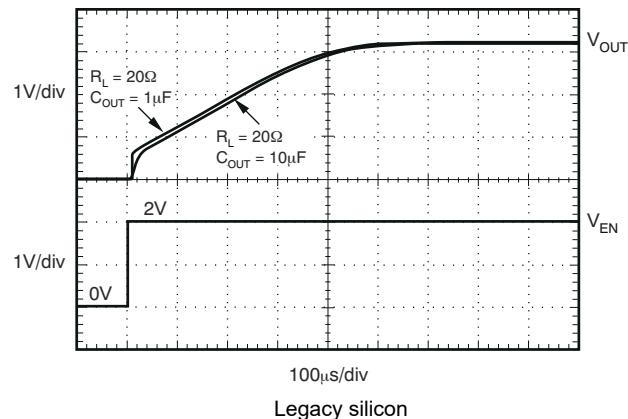

Figure 5-32. TPS73701 Turn-On Response
The enable pin (EN) is active high and compatible with standard TTL-CMOS levels. V_{EN} below 0.5 V (maximum) turns the regulator off and drops the GND pin current to approximately 10 nA. When EN is used to shutdown the regulator, all charge is removed from the pass transistor gate, and the output ramps back up to a regulated V_{OUT} (see Figure 5-32).